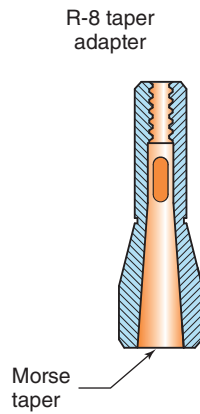

Figure 12-72 Morse taper tools must be used for drilling and reaming tasks only, never for milling which creates side thrust and will dislodge the Morse taper!
3. Morse taper adapter—drawn into the mill spindle. This sleeve converts the mill spindle to accept standard drill tapers (Fig. 12-72).